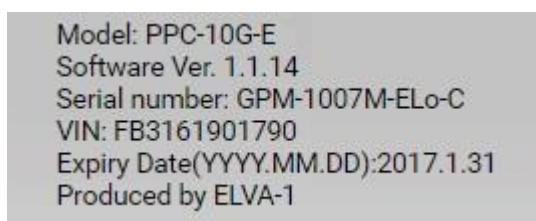

Figure 26: Example of Identification information
- Identification information for both radios of the link, displayed in the top right part of the Web Interface window, see example in Fig. 26 and its description in section 3,